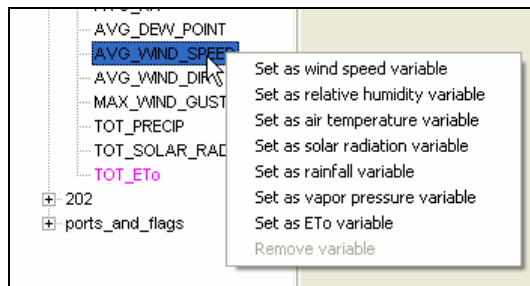

Figure 10.0.15
- Right click on the folder to open up the **selections** window (Figure 10.0.15).